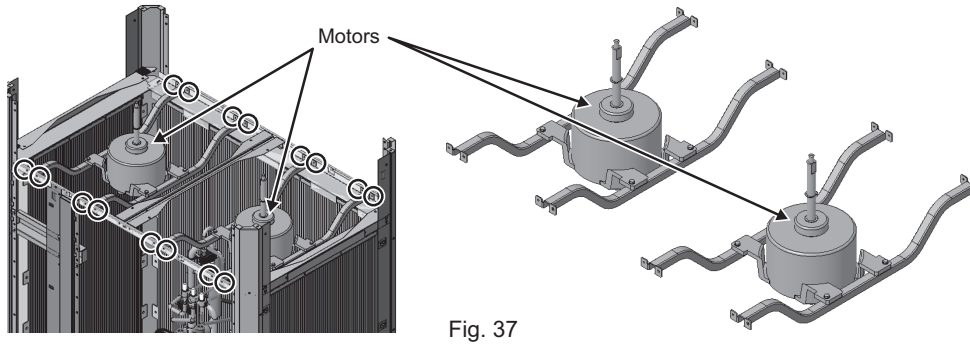

Fig. 37
- (9) Remove the motors. (16 screws: Fig. 37)